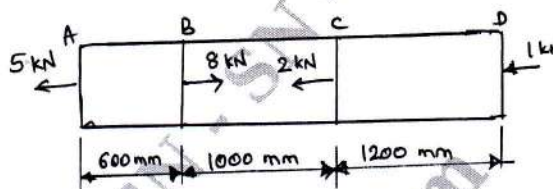

Fig.Q1(c)
- A brass bar having cross-sectional area  $1100 \text{ mm}^2$  subjected to axial force as shown in Fig.Q1(c). Determine the total elongation of the bar by assuming the modulus of elasticity as  $106 \text{ GN/m}^2$ .